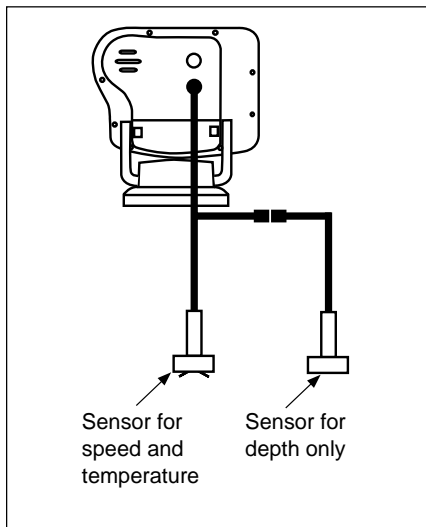

Fig. 2-15
2. Plug the cable from the depth-only transducer into the receptacle connector on the optional speed- and temperature-only transducer. The speed- and temperature-only transducer then connects at the transducer receptacle of the FishFinder 465. This is shown below in Fig. 2-15.